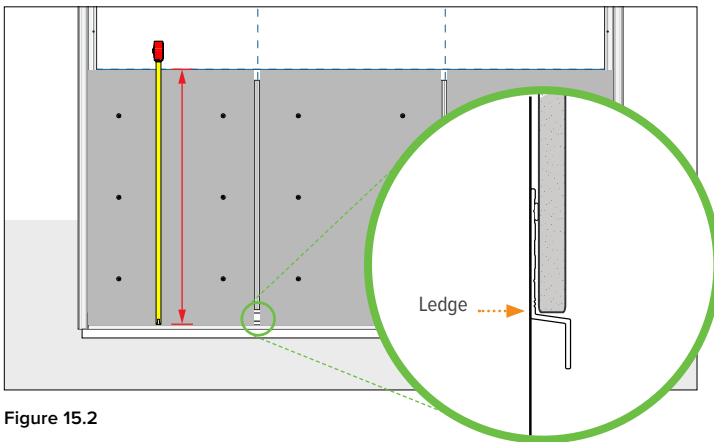

Figure 15.2
9. The vertical height of panel will be the length from the ledge of the horizontal trim to the top of panel location. (Figure 15.2).